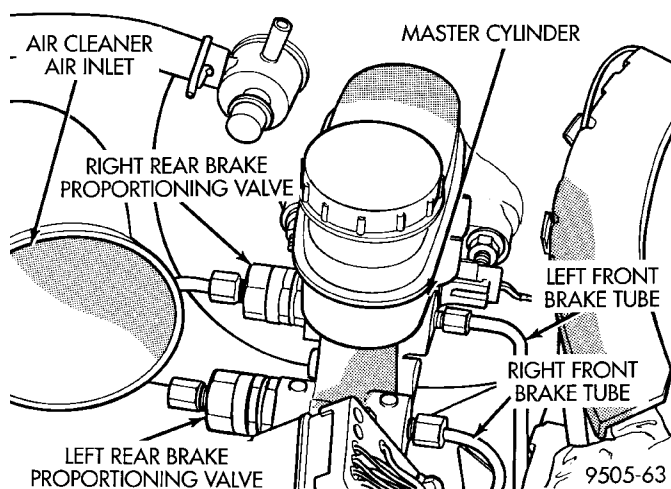

Fig. 124 Non-ABS Proportioning Valve Locations On Master Cylinder
One proportioning valve controls the right rear brake, and the other proportioning valve controls the left rear brake (Fig. 124). Therefore, a road test to determine which rear brake slides first is essential.
(1) Disconnect brake tube from proportioning valve requiring removal from the master cylinder (Fig. 124).
(2) Remove proportioning valve (Fig. 124) from the master cylinder requiring replacement.